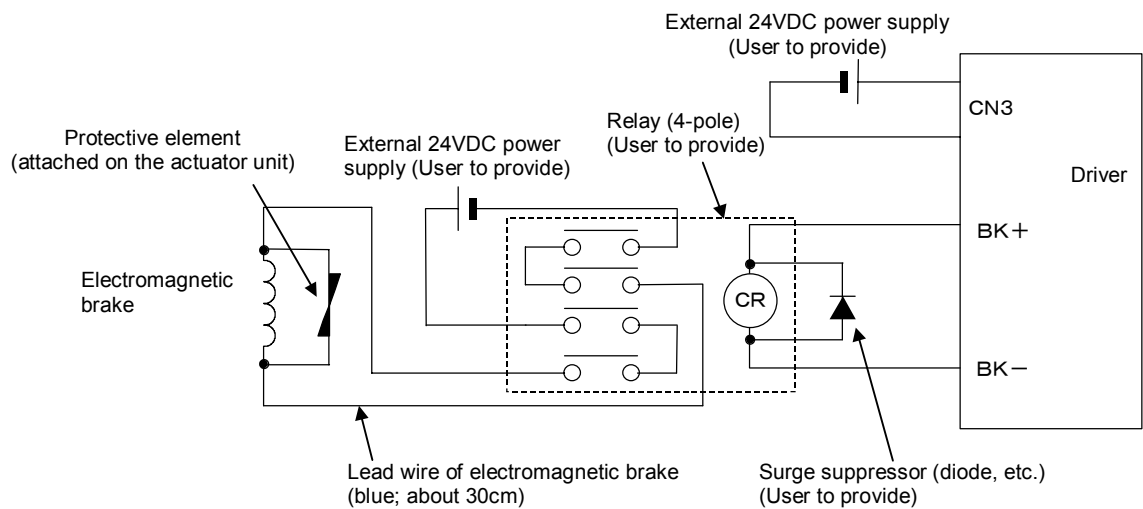

Fig. 3.6 Recommended Circuit 2 for Electromagnetic Brake
- Use a relay having a contact capacity 10 times or larger than the rated current. If the contact capacity is smaller, use a 4-pole relay and connect as shown in Fig. 3.6. The contact life of the relay will be extended.